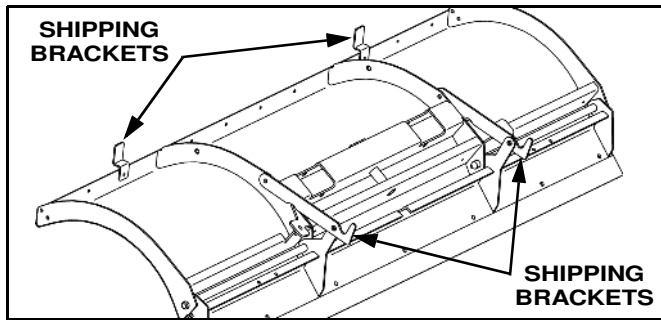

Figure 1-4
2. Lay blade face down on floor. Remove four shipping brackets. (See Figure 1-4)